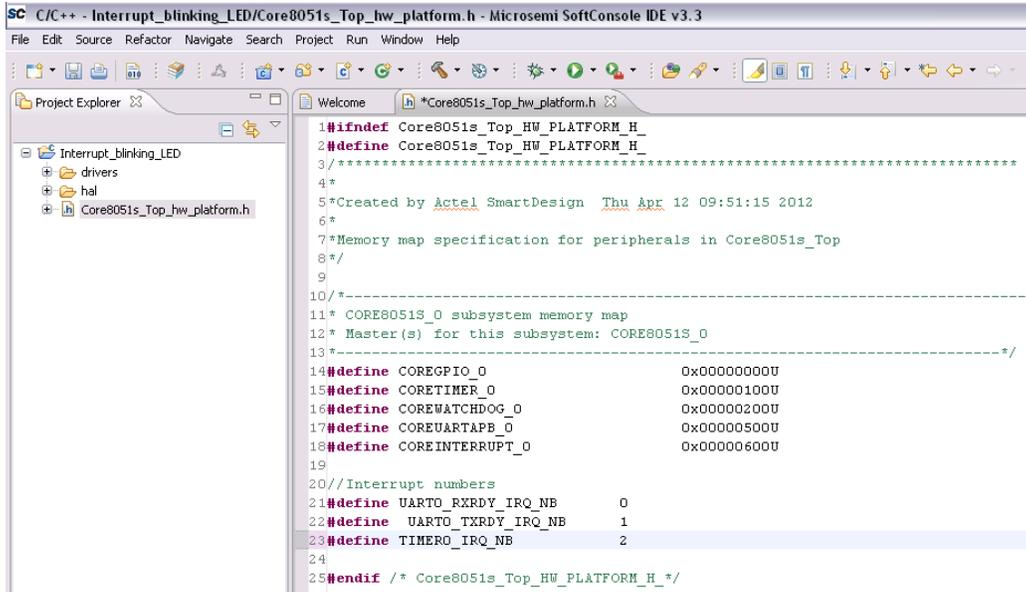

Figure 25 Modified Hardware Platform File
- Open Core8051s_sys_hw_platform.h file and add the following definitions (Figure 25).